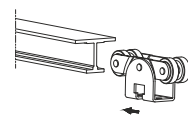

Fig. 3
4. Slide the carriers on to the track as shown in Fig.3.